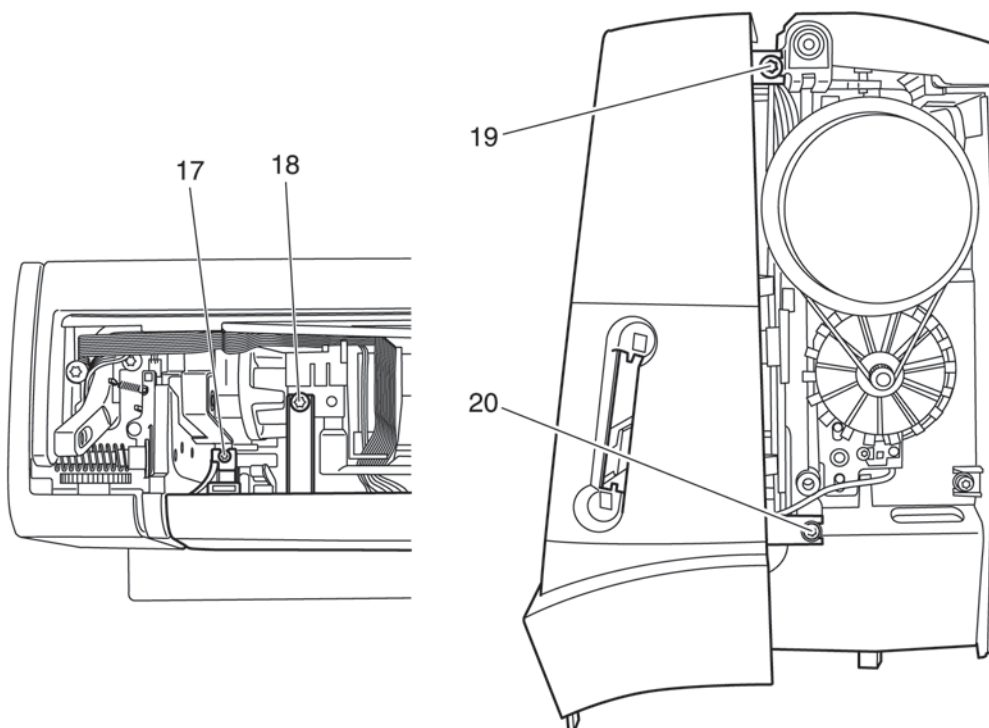

Fig. 36
- Press the housing insert slightly downwards and tighten the four screws 17 to 20 (fig. 36).